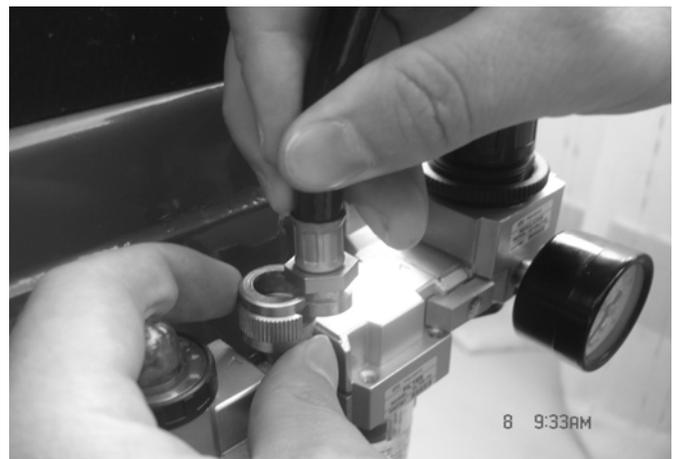

FIG 15
3.3.3 Connect the inflation gun: Plug the inflation gun connect into the slot of the open nut (FIG15) and tight the open nut and then connect air supply.